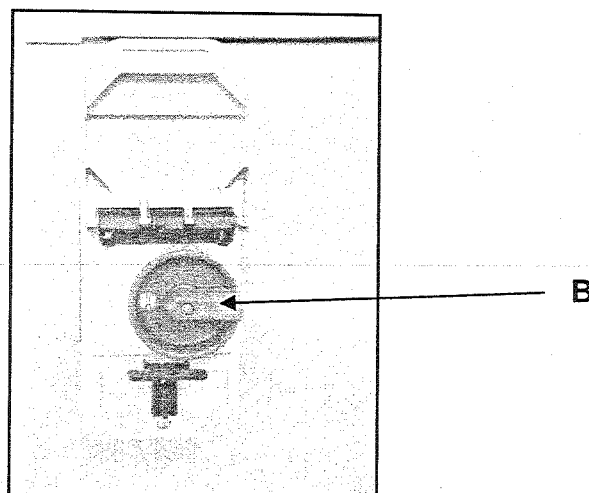
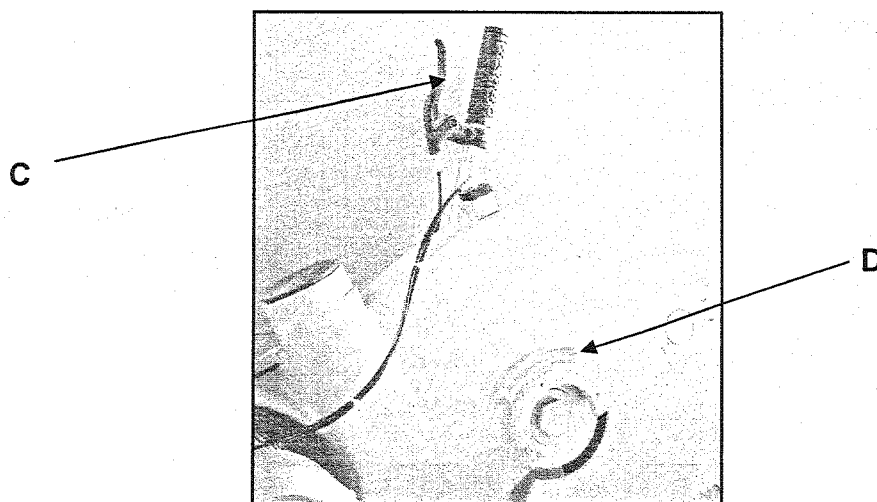

Fig. 4
Fig. 5
3. Turn the switch situated on the front left side of the machine (Fig. 4 part. **B**) turning it in position 1 . At this point, check the rotation sense of the blade, which must correspond to that indicated from the arrow on the carter of protection (Fig. 5 part. **D**).
4. To proceed to the execution of the cut, release the safety stop of the head, operating on the lever situated on the handle for the blade descent (Fig. 5 part. **C**).